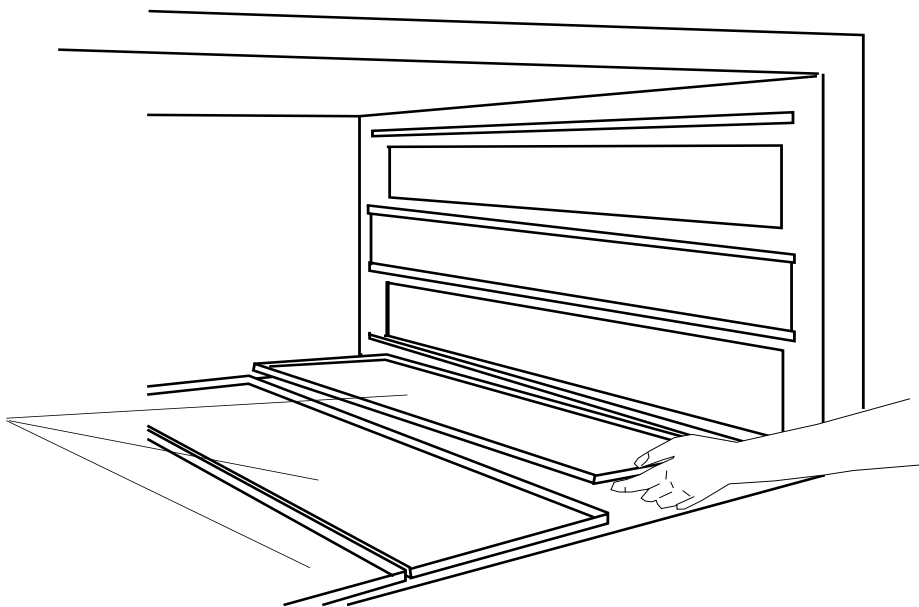

Figure 4-21.
1. Replace the 3 drip pans into bottom of oven. Refer to Figure 4-21.